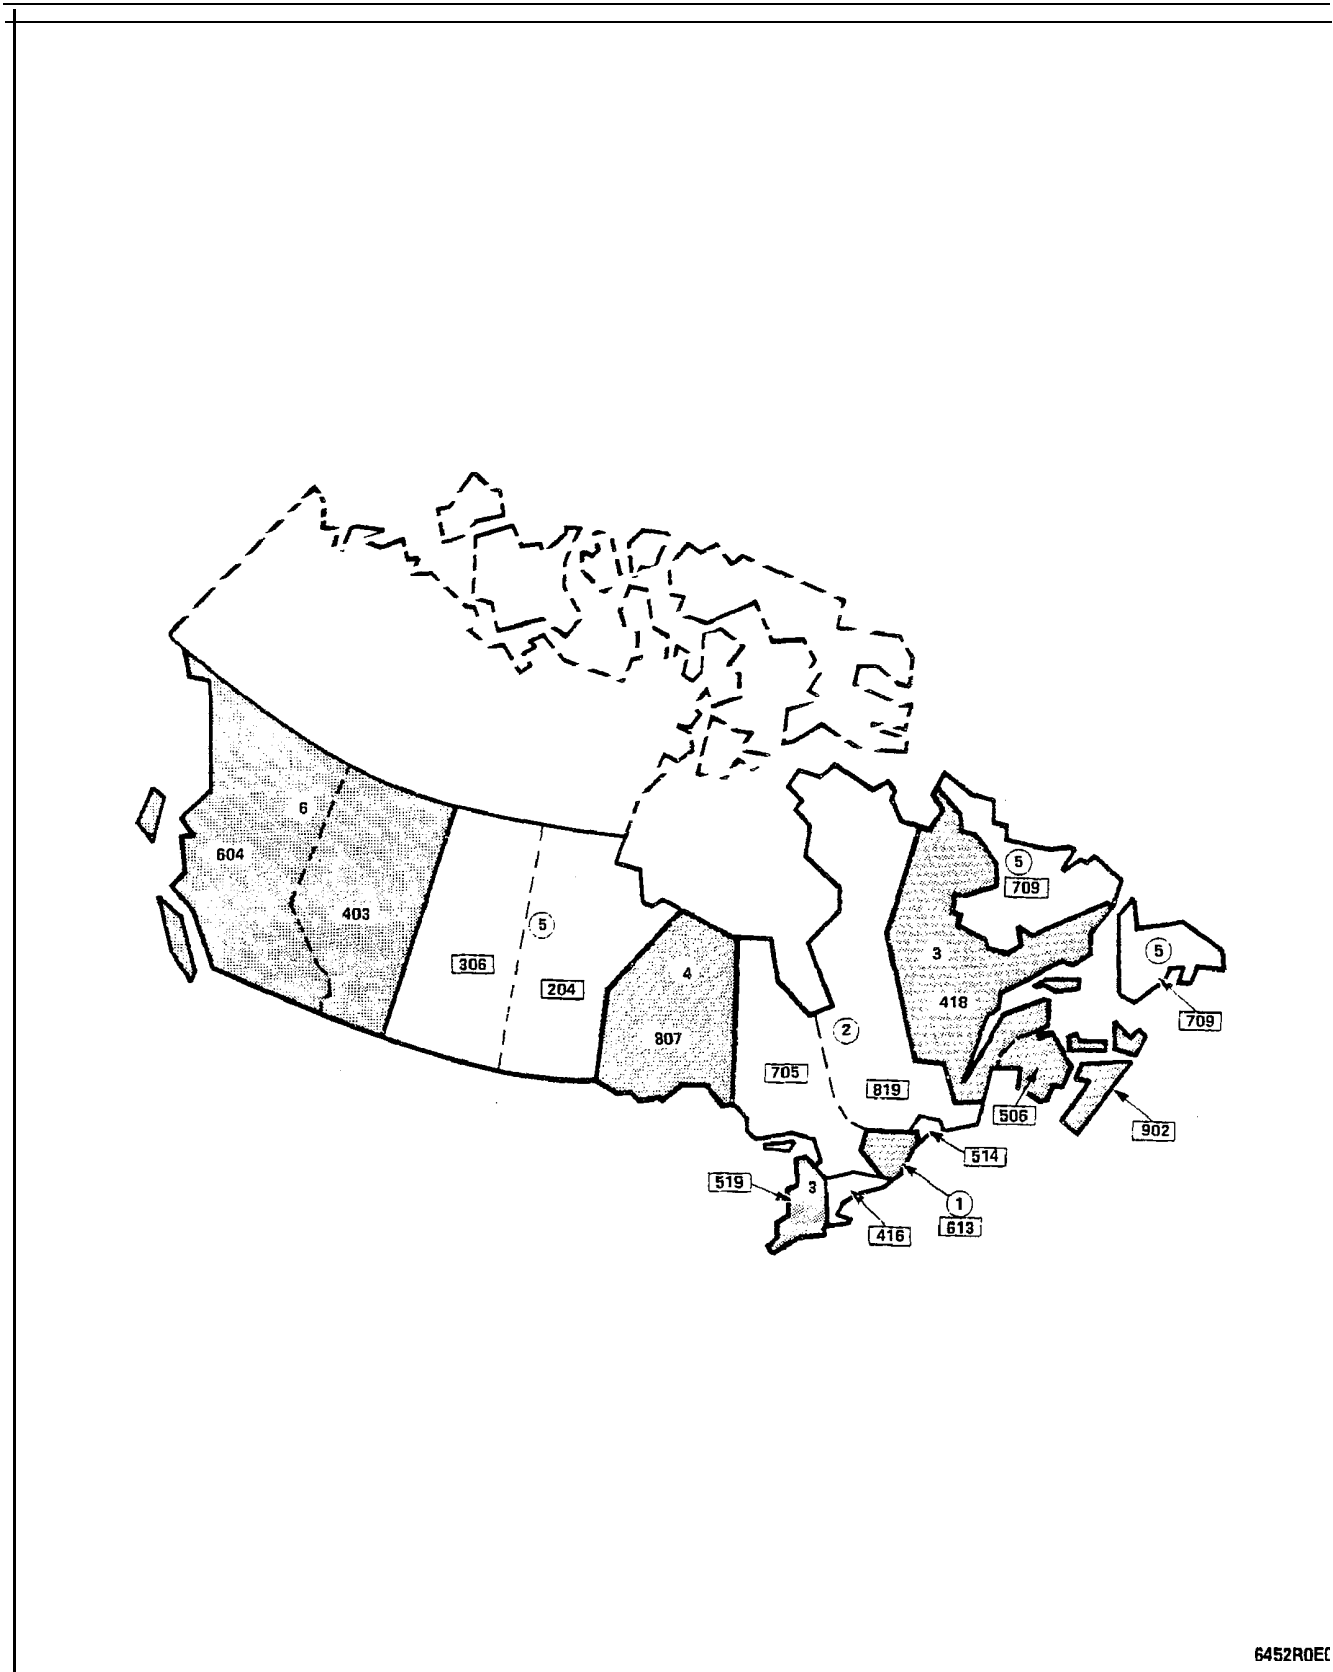

Figure 3-3 Canadian WATS Zoning (Zone 1 Being Area Code 613)
3.08 WATS divides the country into geographical regions known as zones. Zones are incremental, numbering 1 through n, from the home zone. For example, zone 4 provides a WATS subscriber in the home zone (zone 1) with access to all telephone subscribers in zones 1, 2, 3 and 4. Likewise, zone n provides a WATS subscriber in the home zone with access to all telephone subscribers in all zones. Figure 3-3 shows Canadian WATS zones, 1-6, and the zone numbering which is unique to WATS subscribers with Area Code 613, where MITEL Corporation headquarters is located.